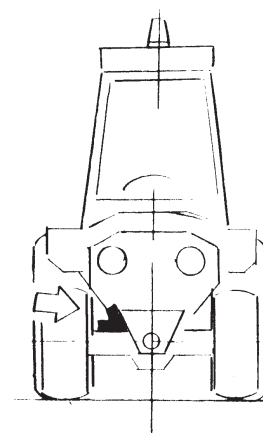

Fig. 21
- Only in extreme cases, and only when working, lock the front axle articulation by fitting a spacer between the chassis and the front axle (FIG. 21). We recommend you to contact “FERRI” or our dealer.